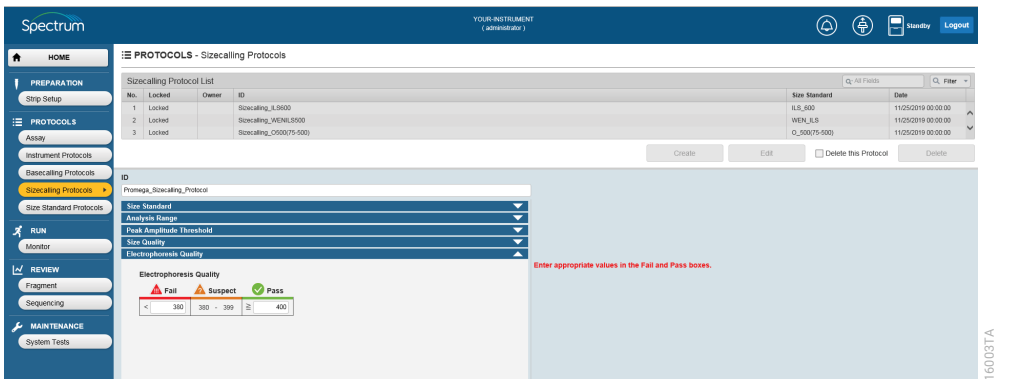

Figure 55. 'Electrophoresis Quality' pull-down screen.
7. Select the **Electrophoresis Quality** pull-down menu and enter EQ values below which EQ data is considered failing and above which it is considered as passing (Figure 55).